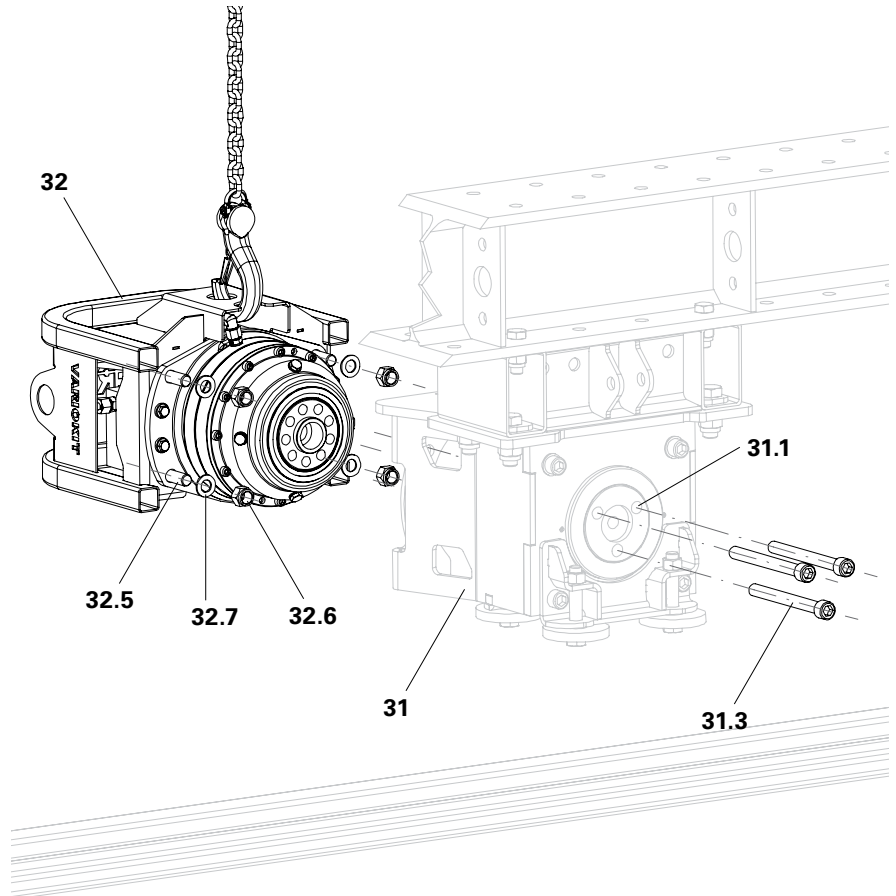

Fig. B2.09a
3. Attach the hydraulic drive (32) to the crane lifting gear and fly in.
4. Position the hydraulic drive in front of the wheel block (31) and then carefully push into the wheel block.
5. Fix the hydraulic drive to the wheel block with bolts M20x70 (32.5), washers M20 (32.7) and nuts M20 (32.6). (Fig. B2.09a + B2.09b)